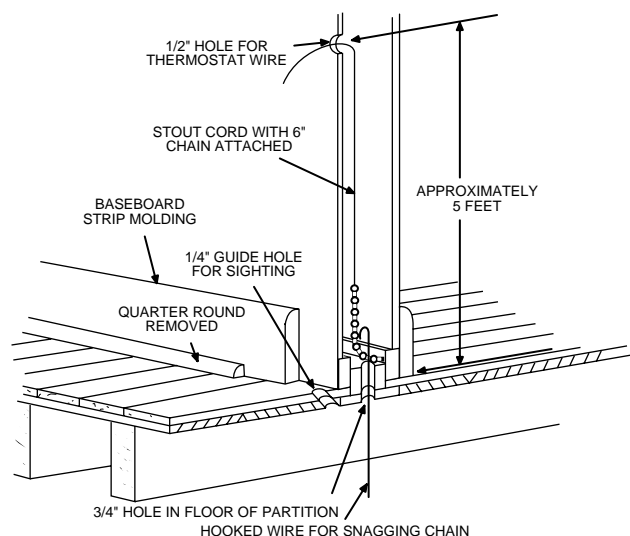

Figure 1. Routing Thermostat Wires
1. Probe for obstructions in partition before drilling 1/2" hole in wall at selected location. Take up quarter round and drill a small guide hole for sighting (see Fig. 1). From basement, drill 3/4" hole in partition floor next to guide hole. In basementless buildings, drill 1/2" hole through ceiling and into partition from above.